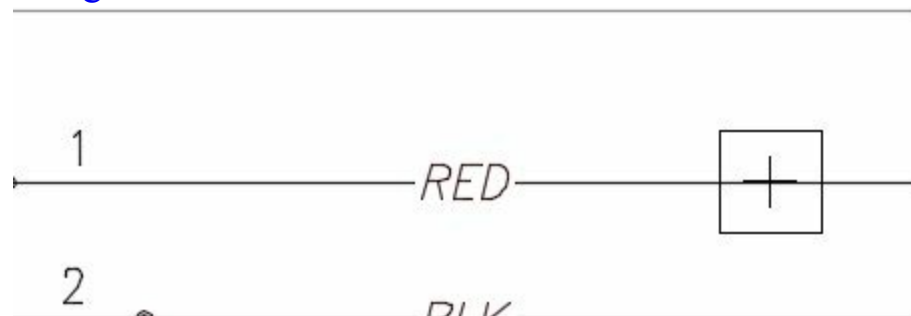

Figure-27. Scouting component
- Click on the desired entity. A box will be attached to the cursor representing the component; refer to Figure-27.